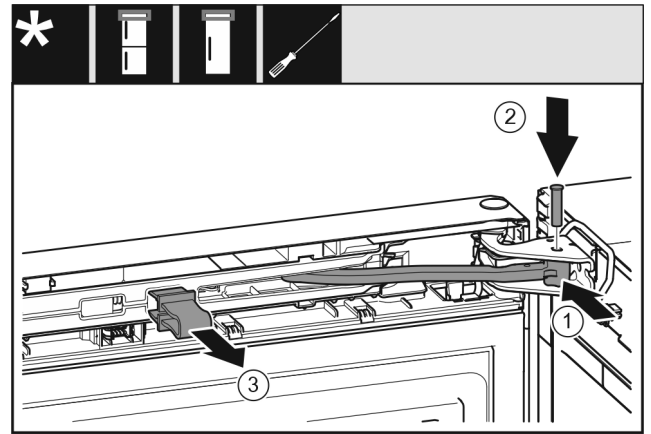

Fig. 52
- ▶ Turn the joint *Fig. 52 (1)* in the bearing block.
- ▶ Insert the bolt *Fig. 52 (2)* into the bearing bracket and joint. Ensure that the latching cam is in the groove properly.
- ▶ Remove the safeguard *Fig. 52 (3)*.